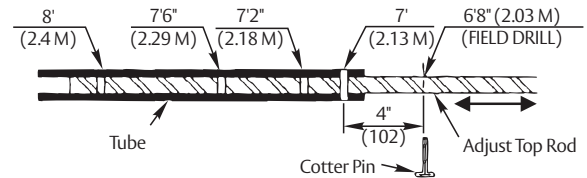
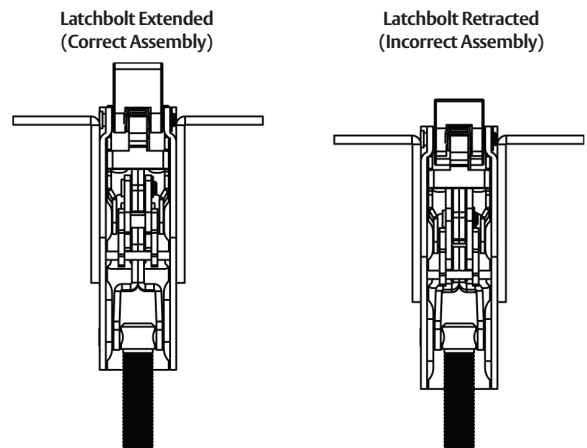
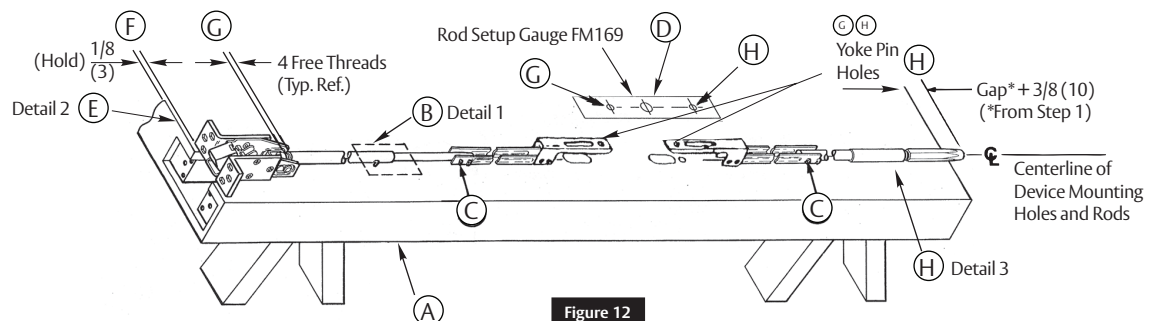

Figure 9
Figure 10
Figure 12
2. Set flat; device side up. Do not hang door until you "Complete Installation" on page 12. (Figure 12-A)
3. Set length of top rod assembly. See Detail 1 - Figure 9; Figure 12-B.
4. Connect top and bottom rods to arm/bracket assemblies using two (2) cotter pins each. (Figure 12-C)
5. Align rod setup gauge over device cutouts and centerlines. (Figure 12-D)
7. Connect top latch to rod assembly. Latchbolt must be fully extended. See Detail 2 - Figure 10; Figure 12-E.
8. Set top latch assembly in place on door. Maintain 1/8" (3) location from top of door as shown. (Figure 12-F)
9. Align yoke pin holes in arm and bracket assembly with alignment hole in rod setup gauge. (Figure 12-G)
11. Thread deadbolt into bottom rod assembly. Set bottom rod assembly in place on door. (Figure 12-H)